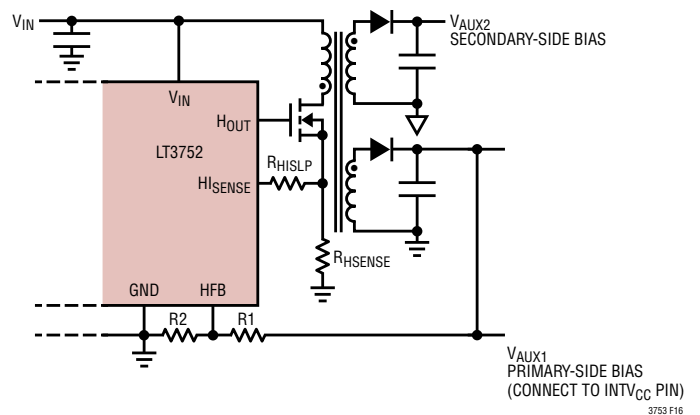

Figure 16. LT3752 Forward Controller with Additional Integrated Housekeeping Controller for Primary-Side and Secondary-Side Bias
The best method for generating an auxiliary supply, that is available even for $V_{\text{OUT}} = 0\text{V}$, is to have a housekeeping controller integrated into the primary-side IC (Figure 16). This gives the highest efficiency, most cost effective
- (1) Use a primary-side forward controller with integrated housekeeping controller to generate a secondary-side bias (Figure 16).